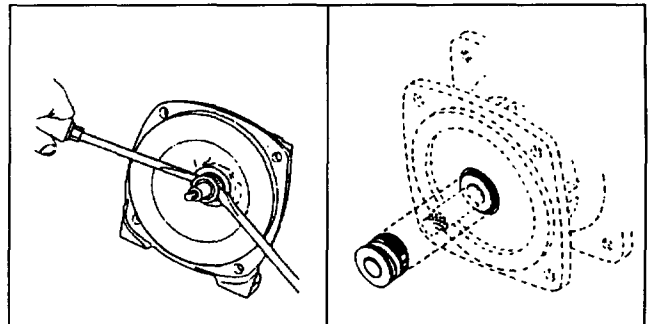

Figure 47
4. To install the rotary portion of the mechanical seal, place it over the shaft with the carbon side facing in, and press until it bottoms out against the stationary portion. See Fig. 47.